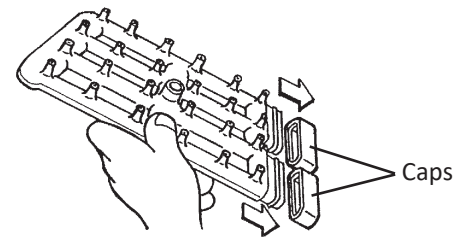

Fig. 45
- 8) Remove the two caps. See Fig. 45.